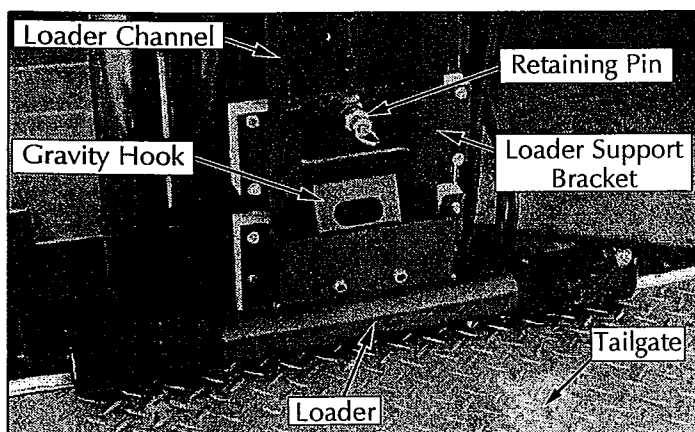

Figure 3-3: Loader in load position
1. Raise the loader support bracket and engage the retaining pin in the top hole of the loader channel (fig. 3-3).
2. Secure the loader to the loader support bracket with the gravity hook (fig. 3-3).
4. Release the gravity hook and slide the loader down until it comes into contact with the vehicle bed or tailgate (fig. 3-3). Then reposition the loader support bracket so the retaining pin is in the **first** available hole above the loader.